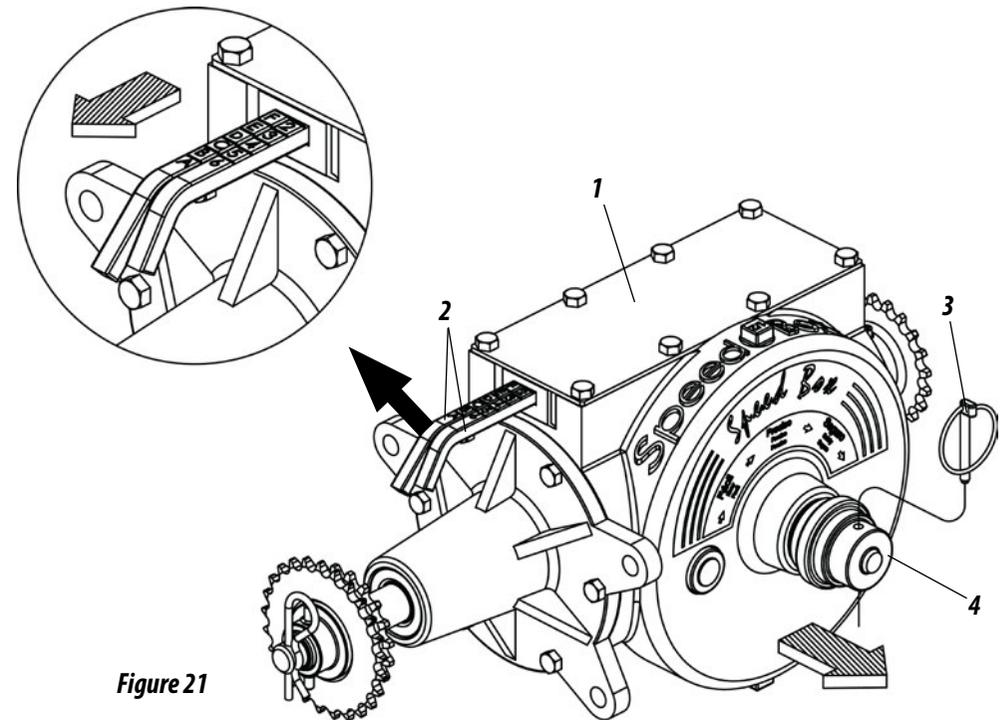

Figure 21
01 - For seed regulation, select the desired quantity in the tables and check the corresponding combination in levers (1). Example: position F 2 indicates that the cursor of letters must be in position "F" and the cursor of numbers must be in position "2" as detailed in Figure 21.